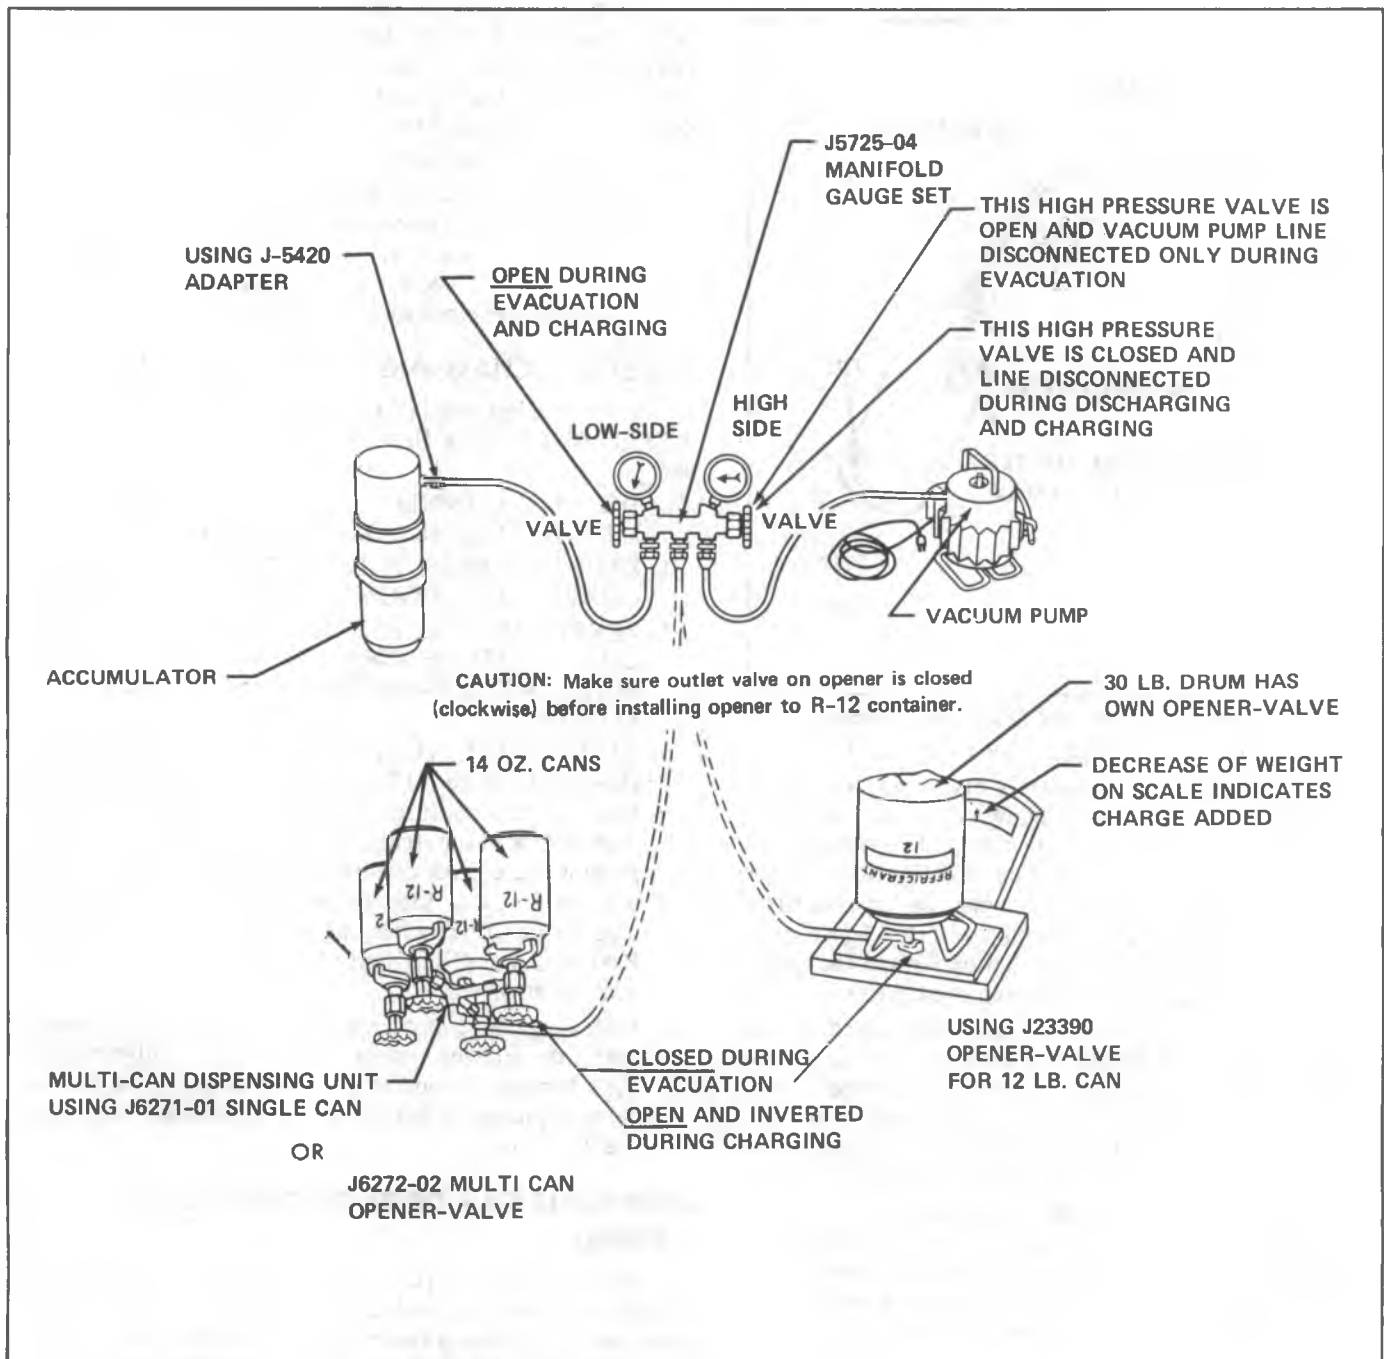

Fig. 1B-24—Charging the CCOT A/C System with Disposable Can or Refrigerant Drum.
1. Connect Manifold Gage Set J-5725-04 as shown in Fig. 1B-24.
2. To begin evacuation, with Manifold Gage Set and Vacuum Pump as shown in Fig. 1B-24 slowly open high and low-side gage valves and begin vacuum pump operation. Pump the system until low-side gage reaches 95-98 kPa (28 to 29 in.) vacuum or more.
2. With the Refrigerant-12 drum or 420 ml (14 oz.) can(s) inverted, open R-12 source valve(s) and allow 480 ml (1 lb.) or 1 to 2, 420 ml (14 oz.) can(s) of liquid R-12 to flow into system through low-side service fitting on accumulator (Refer to Fig. 1B-31).